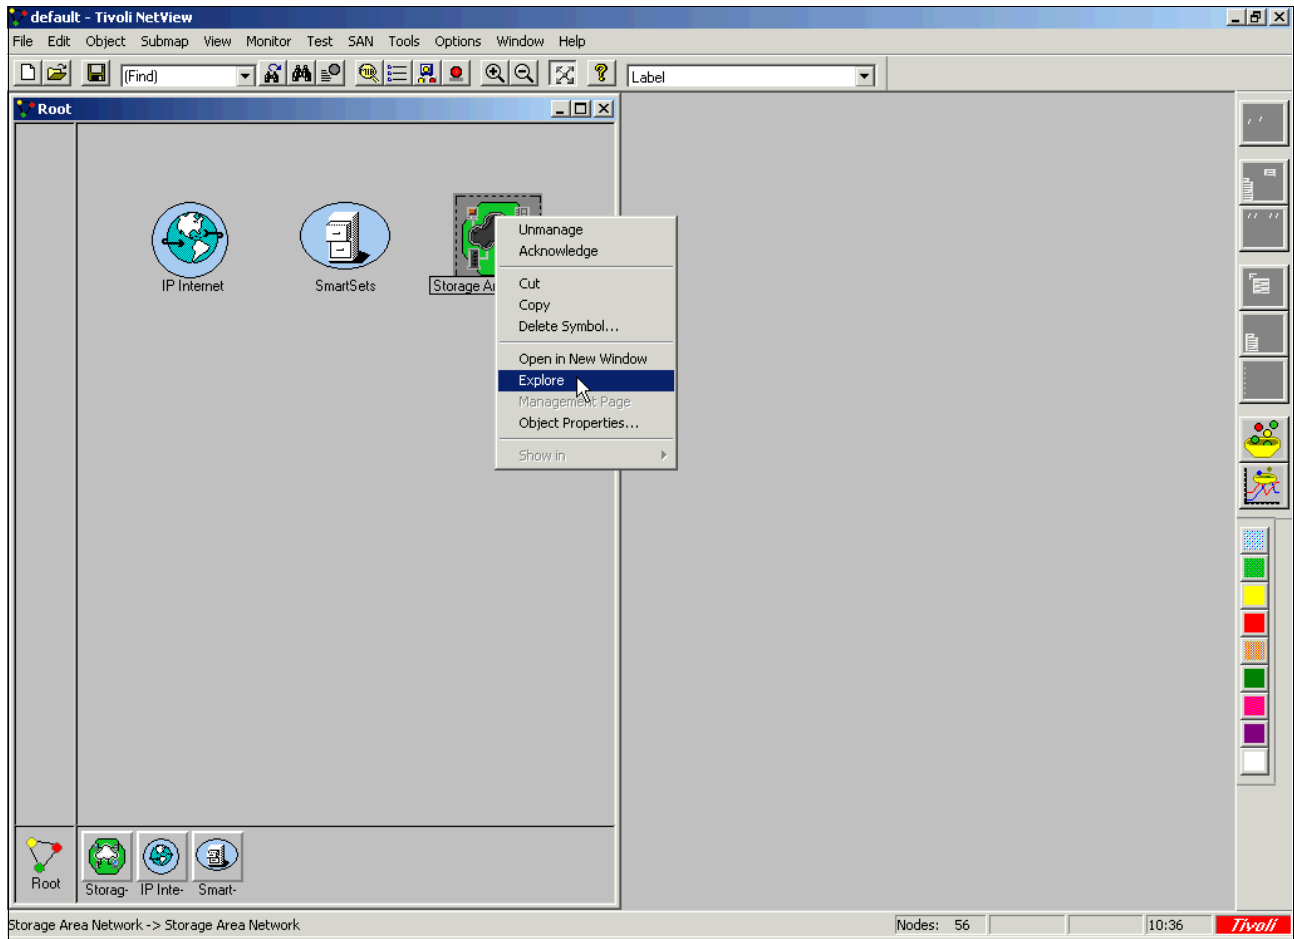

Figure 14-10 Exploring storage area network
6. On the *Root* panel (Figure 14-10), right-click the **Storage Area Network** icon, and select **Explore**.